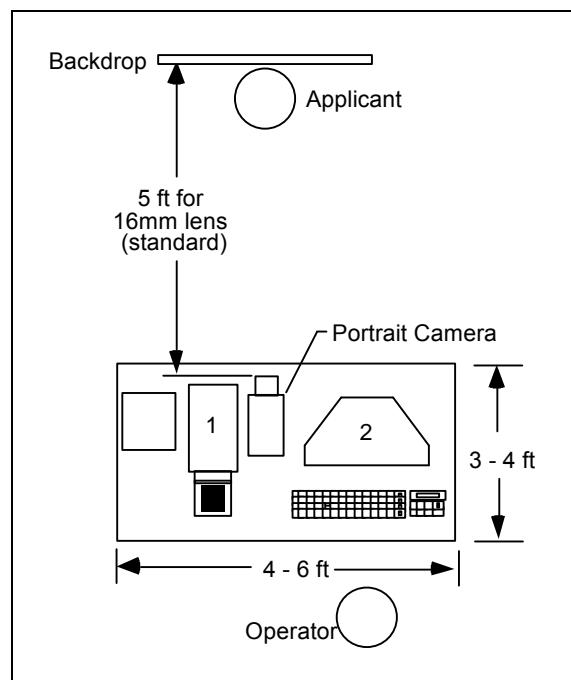

Figure 2-1. Typical Polaroid ID-4000 Layout
Sufficient space must be available to allow the layout shown in (Figure 2-1). Be sure the operator has sufficient workspace.
Note: Particularly important is the camera-to-subject distance in Figure 2-1. Also, the CI-5000 film recorder (1) and the monitor (2) must be at least 16 inches apart to prevent electromagnetic interference.